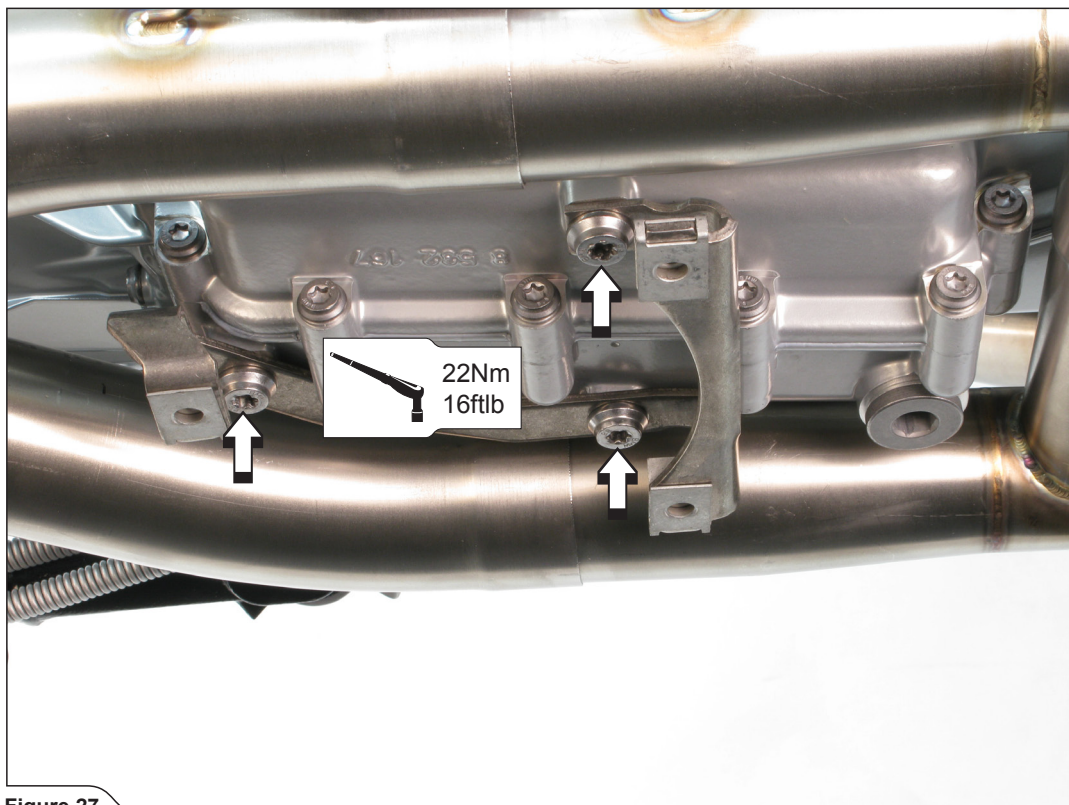

Figure 27
21. Reinstall the skid plate's bracket and skid plate (Figure 27, 28).